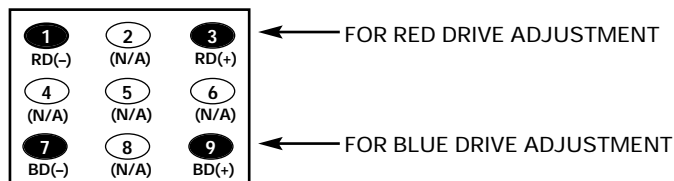

Figure 6. Remote Control Number keys' functions in Service Menu NO. 72 DRV
12. Adjust Red and Blue Drive Levels alternately with 1, 3, 7, or 9 key to produce normal black and white picture in highlight areas. (See Figure 6.)